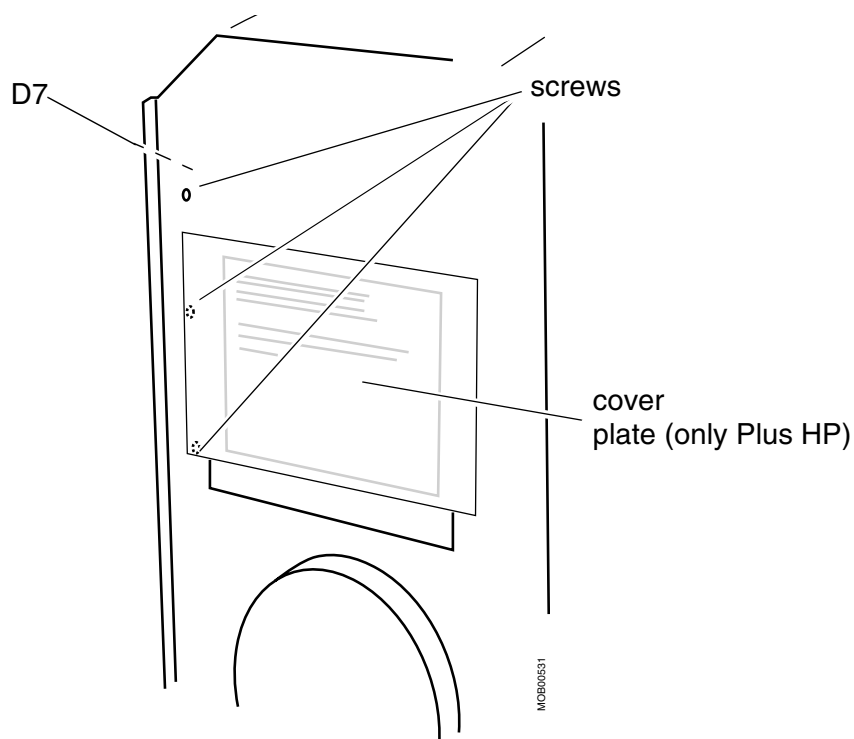

Fig. 28 Removing cover plate and board D7
38. Dismount board D7 by unscrewing the three mounting screws, see Fig. 28. If MOBILETT Plus HP, first remove the cover plate in order to reach all mounting screws.
39. Remove board D7 (Fig. 28).